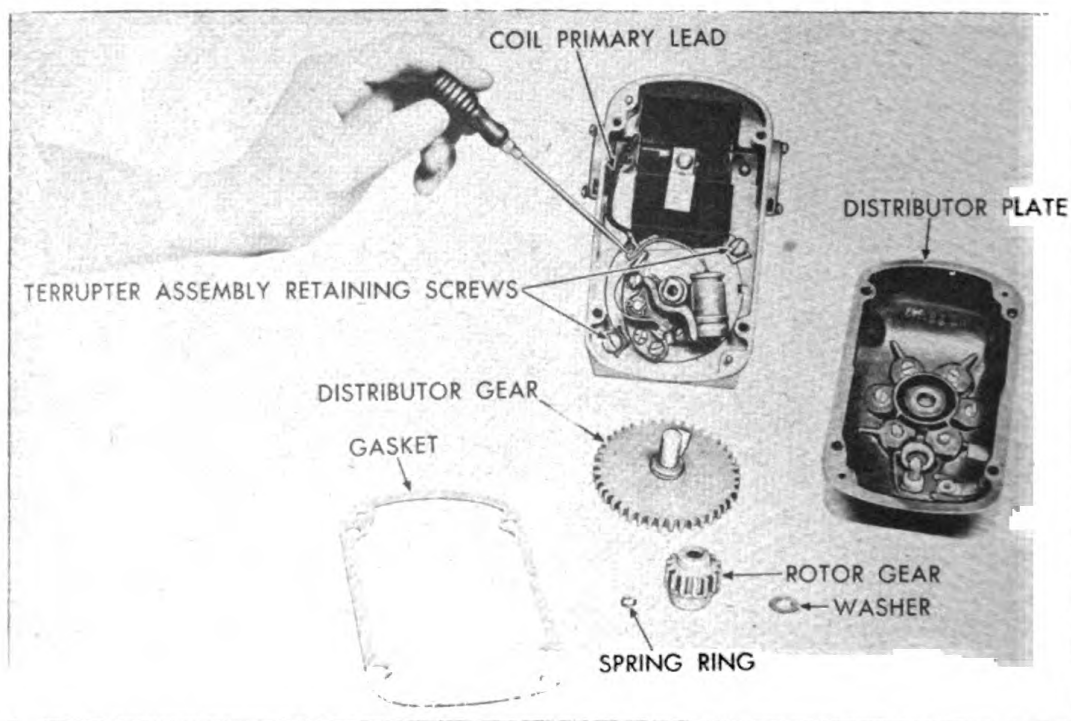

Figure 235. Disassembly of Magneto.
A. Refer to Figure 235. Remove distributor plate assembly by loosening fastening screws. The spring ring holding the rotor gear to the rotor gear shaft can easily be removed by taking the distributor plate assembly up in one hand and bringing it down rapidly on a bench so that the four corners of the open end of the distributor plate strike simultaneously. Rotor gear and distributor gear can then be removed, see Figure 235. Remove coil primary lead screw and lockwasher Figure 235.
A. Visually inspect the rotor gear distributor gear and carbon brush for possible wear. Figure 235. Check the distributor plate for current leakage or damage. If cracked replace. However, if inspection reveals no
H. Connect coil primary lead clip to insulated post of contact bracket and tighten screw. See Figure 235.
I. Assemble distributor plate by inserting shaft of distributor gear into bronze bearing of distributor plate. Make sure that the spacing washer is on the shaft. Rotate distributor gear until the white line points directly to the rotor gear shaft. Place the spacing washer and the rotor gear on the rotor gear shaft engaging the tooth painted red on the rotor gear with the distributor gear slot marked with a white line. Put spring ring on rotor gear shaft using tool No. TSE 528. Place distributor plate assembly into place. See Figure 235. The oblong shaped hole of the rotor gear is to engage the magnet rotor shaft. Drive distributor plate fastening screws into place.